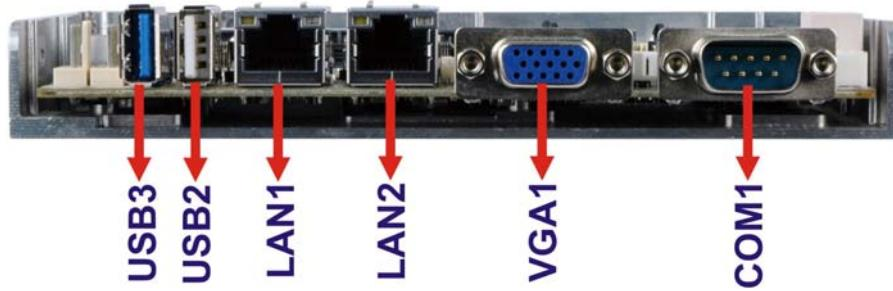

Figure 3-25: External Peripheral Interface Connector
**Figure 3-25** shows the WAFER-BT-i1 external peripheral interface connector (EPIC) panel. The EPIC panel consists of the following:
CN Location: See Figure 3-25
**Table 3-24: Connector LEDs****3.3.2 USB Connectors****CN Label:** USB2, USB3**CN Type:** USB 2.0 & USB 3.0 ports**CN Location:** See **Figure 3-25****CN Pinouts:** See Table 3-26
**CN Location:** See **Figure 3-25**